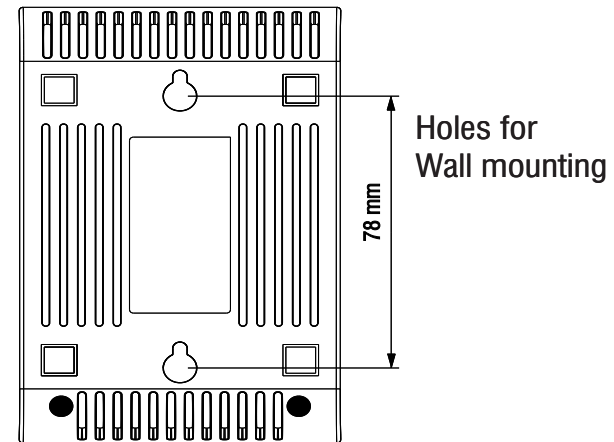

Figure 1
- Drill holes as per the size of the screws provided and at the distance as per Figure 1.